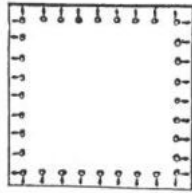

Fig. 1.
*Tente d'abri.*—The French “tente d’abri” has not, so far as I know, been adopted by travellers: it seems hardly suitable, except for soldiers. Each man carries a square of canvas (fig. 1), with buttons and button-holes all round it, by which it can be doubly attached to other similar squares of canvas, and thus, from several separate pieces, one large cloth can be made. The square carried by the French soldier measures